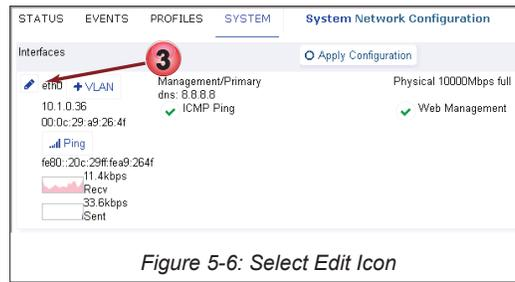

Figure 5-6: Select Edit Icon
- To edit the eth0 management network settings click the **Edit Icon**  on eth0 interface, Figure 5-6.